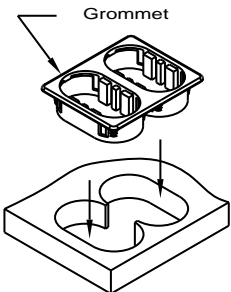

Figure 5
5. Center the grommet over the hole and push down. The grommet should drop in freely for the first 3/4". Plastic ridges on each corner will lock the grommet into position when it is pressed down (Figure 5).